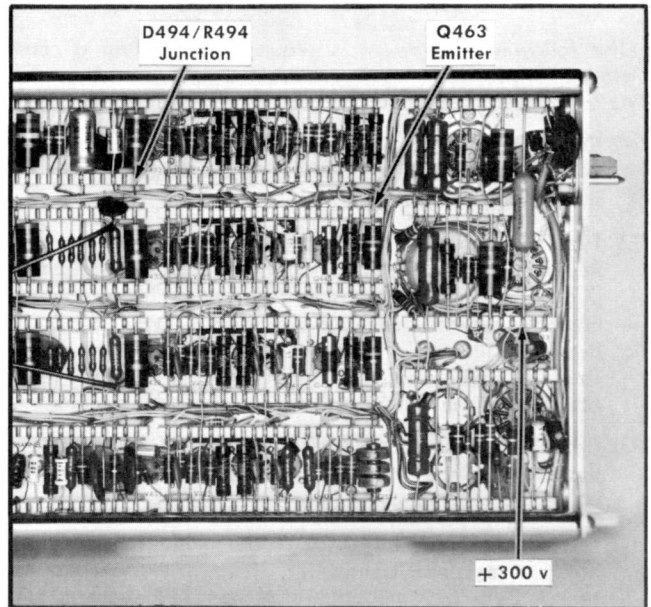

Fig. 6-1. Right side view, rear portion of the Type 3A74, showing the location of the test points.
- a. Connect a dc voltmeter between the D494/R494 junction (see Fig. 6-1) and ground.
- a. Connect a binding post adapter (item 12) to the channel 1 input connector.
- d. Connect a 2' (approx.) jumper lead with insulated test prods between the +300 volt test point (see Fig. 6-1) and the channel 1 Input connector center conductor.
- b. Connect a coaxial cable with BNC cable with BNC plug connectors on each end (item 4) between the Calibrator output connector and the channel 1 connectors. (Use a coaxial connector adapter, item 13, to complete the connections if required.)
- g. Connect the probe from a test oscilloscope (item 4) to the emitter of Q463 (see Fig.6-1).